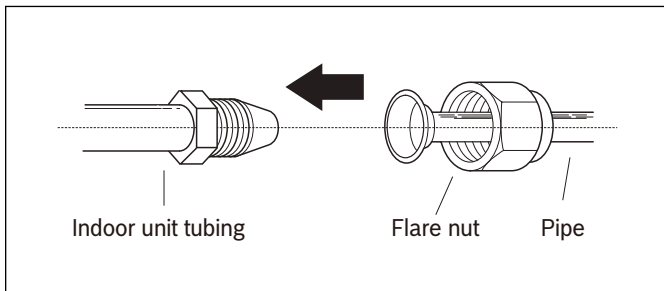

Figure 27
2. Align the center of the two pipes that you will connect. See Figure 27.